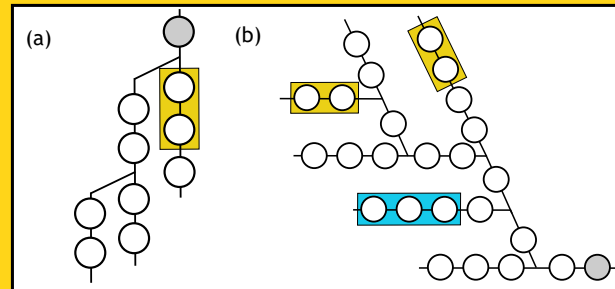

Figure 3. Two of the shunting yards used in the instances: (a) small yard (b) medium yard
2. **Nine instances** created from three shunting yards in the domain (2 of them in Figure 3).